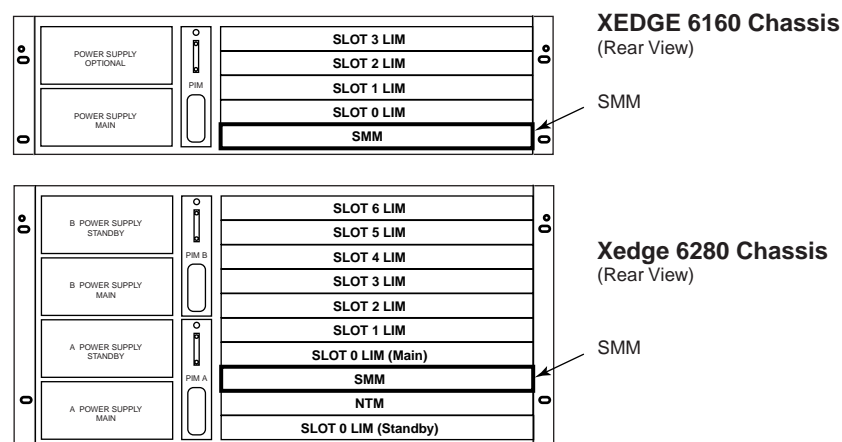

Figure 7-1 Proper SMM Locations
- SMMs can only be installed in the reserved slots shown in Figure 7-1.